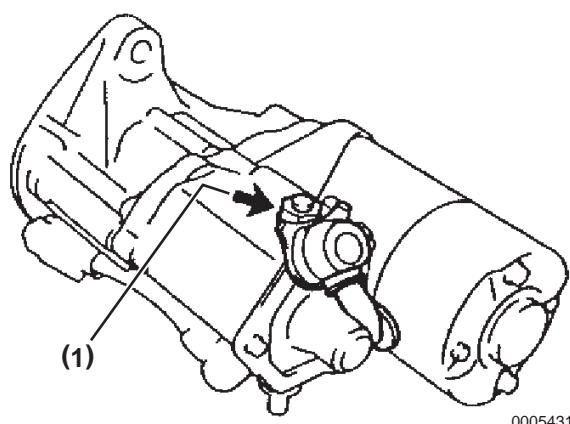

Figure 10-43
14. Connect the lead wire to terminal C (Figure 10-43, (1)) and install the nut and torque to 215 kgf·cm, 21.08 N·m (186.5 lb-in.).